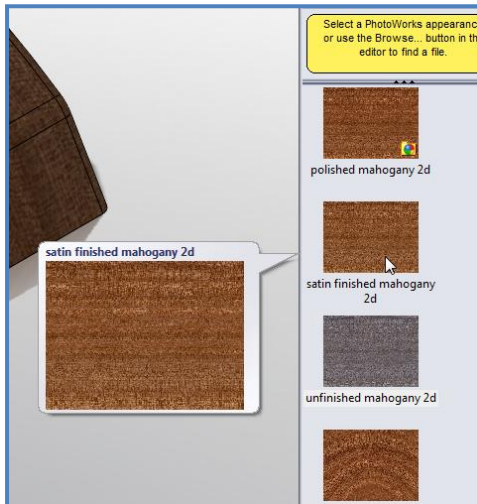

Figure 17
- From the different types of wood select **mahogany** (Figure 17).